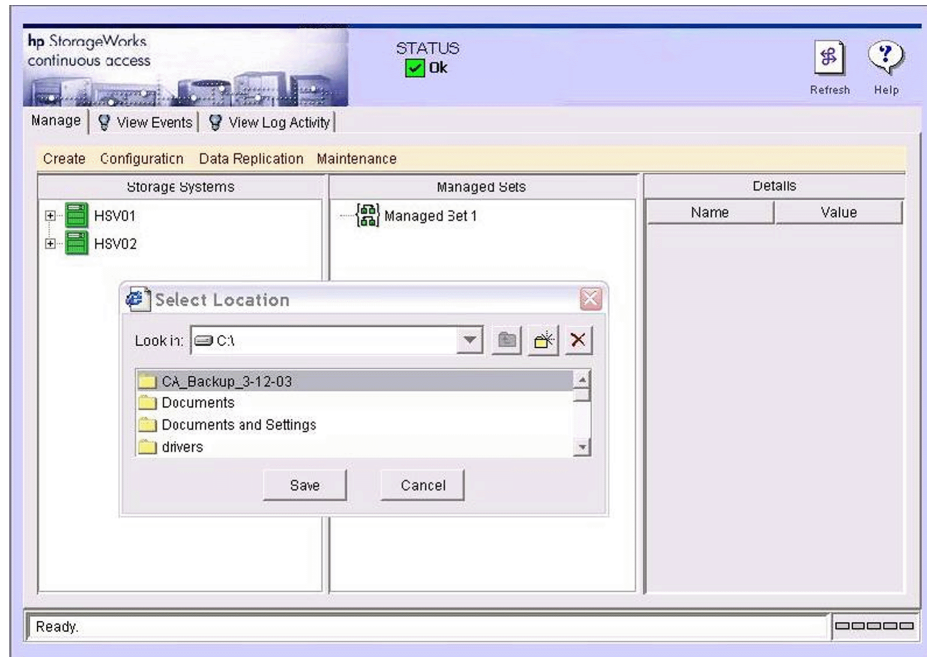

Figure 31: Continuous Access user interface Select Location window
3. On the Continuous Access user interface main window, click **Maintenance** and then click **Backup Database**. A Select Location window opens (Figure 31) from the host where you are browsing, allowing you to select a location for the backup information.
- a. If you have a backup of your configuration that you wish to restore, click **Maintenance > Restore Database**. A Select Location window opens (Figure 31). Choose the folder containing your Continuous Access EVA backup files, select the desired backup file, click **Restore**, click **Yes** in the Restore window, and then click **OK**.